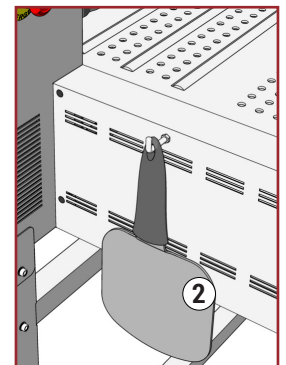

Fig. 24
To avoid accidental contact with hot parts in the unloading area, use the appropriate unloading peel (2) (see Fig. 24).